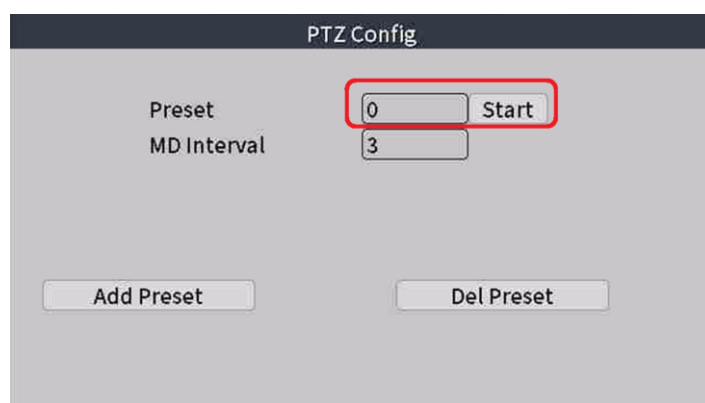

Figure 29. Preset point setup for the “Tour” function
- **Step 3:** select the preset point number (if necessary, press “Start” to move the camera to this point) in the “Preset” section (see Fig. 29). Specify the stop time at this preset point in the “MD Interval” section. Next, click the “Add Preset” to record the preset point in the tour. Repeat Step 3 until all the preset points are programmed in the required order. Right-click to exit the menu;